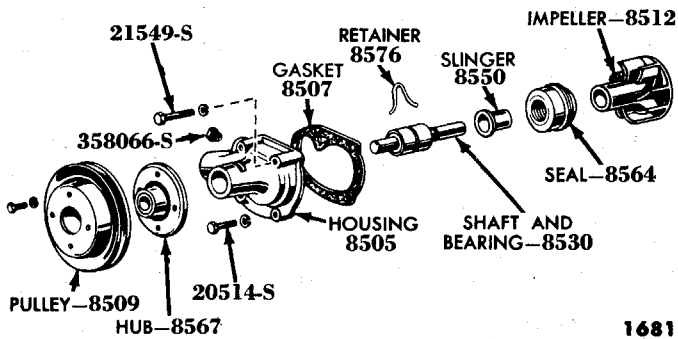

Fig. 66—Water Pump Assembly "H" Series Engine
(2) **DISASSEMBLY.** Remove the bearing retainer located in the access hole on the housing (fig. 66). Press the hub off the shaft. Press the impeller and the shaft and bearing assembly out of the housing.